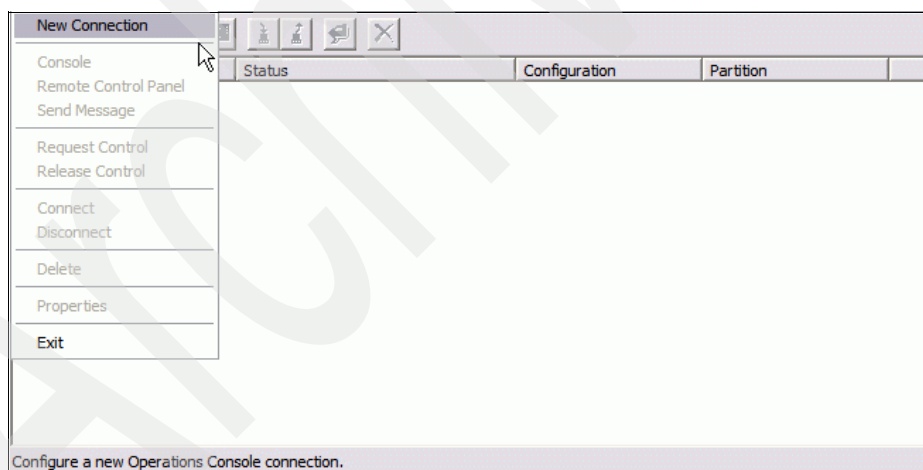

Figure 7-34 IBM System i operator console
2. Select **Connection** menu and then select **New Connection** to continue as shown in Figure 7-34.